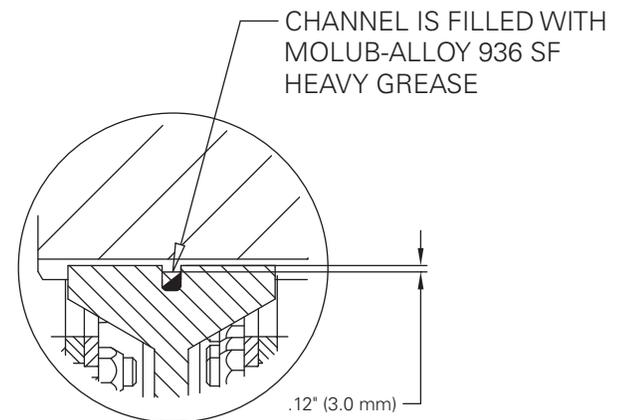

Figure 4
2.2.6 Pre-fill the grease channel in the friction disc splines (if applicable) with MOLUB-ALLOY 936 SF HEAVY or equivalent grease, as shown on Figure 4.